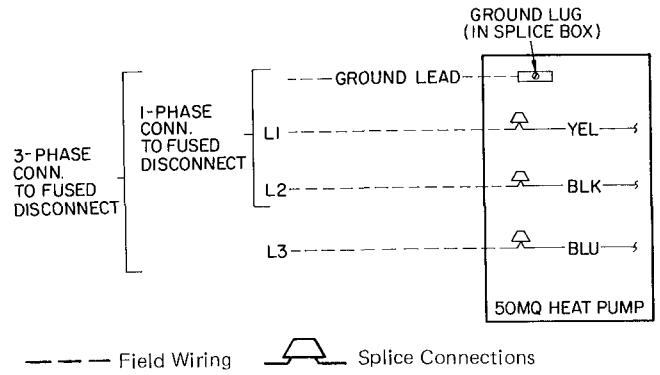

Fig. 6 — Line Power Connections
Step 9 – Connect Ground Lead to Ground Lug in Splice Box before connecting power wiring. See Fig. 6. Connect line power leads to yellow and black pigtails on single-phase units or yellow, blue and black pigtails on 3-phase units. Use wire nuts provided. Tape each connection. Wire nuts are suitable for copper or aluminum wire since they contain joint compound.